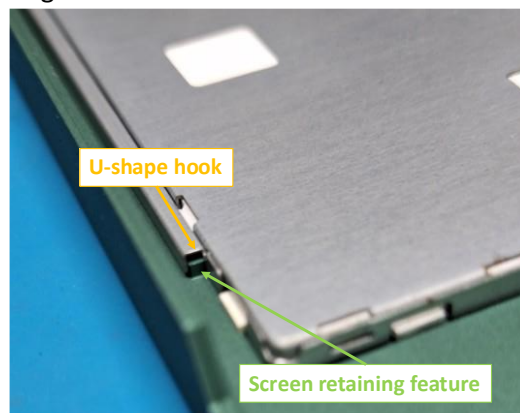

Figure 10: Screen retaining feature
2. Place the screen into the front shell. The metal housing of the screen has a U-shape hook that fits over the screen retaining feature in the front shell as shown in Figure 10.